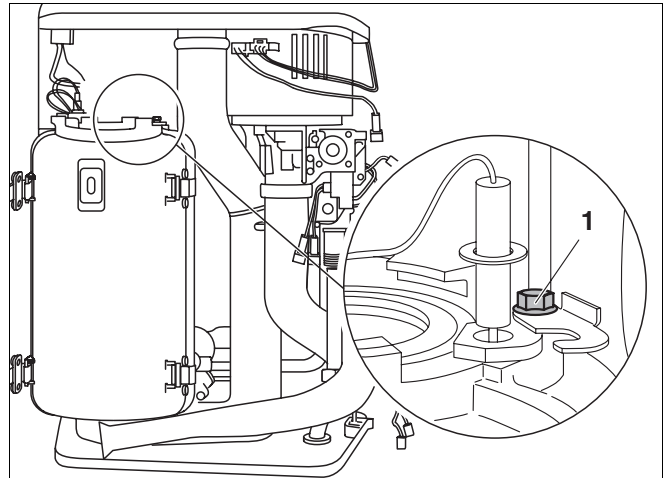

Fig. 67 Replacing the ionisation electrode
- Loosen screw (fig. 67, item 1) by a half-turn and slide bar to remove.